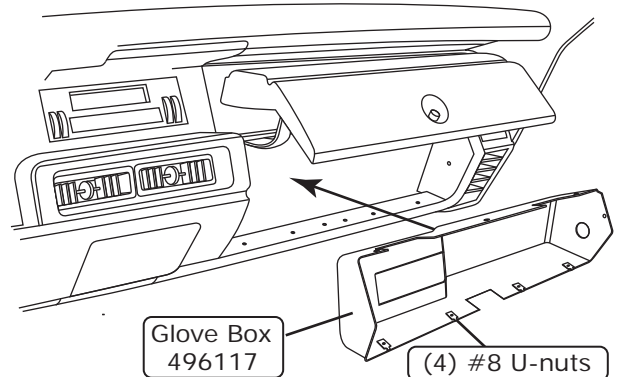

Figure 2
5. Install (4) #8 U-nuts on the glove box, and install glove box in glove box compartment (See Figure 2, below).